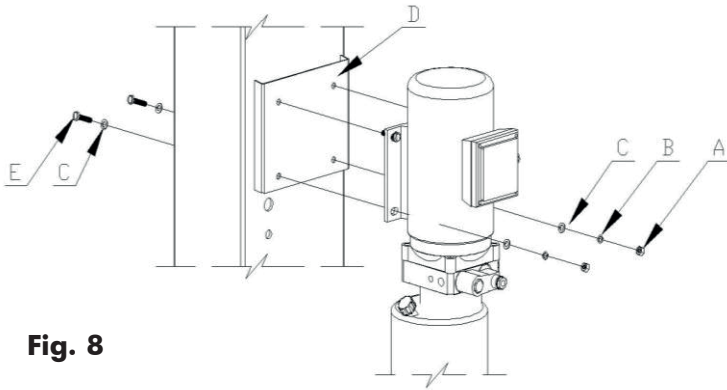

Fig. 8
- 7. Mount the power unit onto the power side post (**fig. 8**).